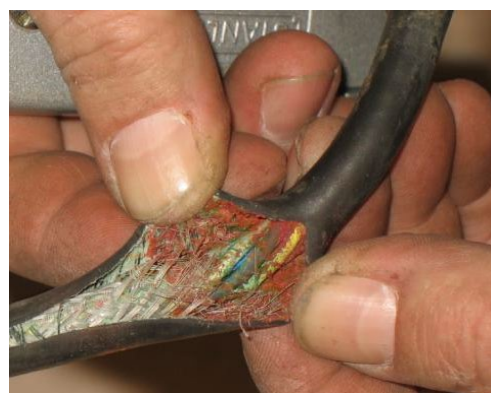

Figure 11. Do not use Zip-Ties Directly on Cables
- Protect the cables with hose if zip-ties are used to secure them to structures (see Figure 11 and Figure 12).